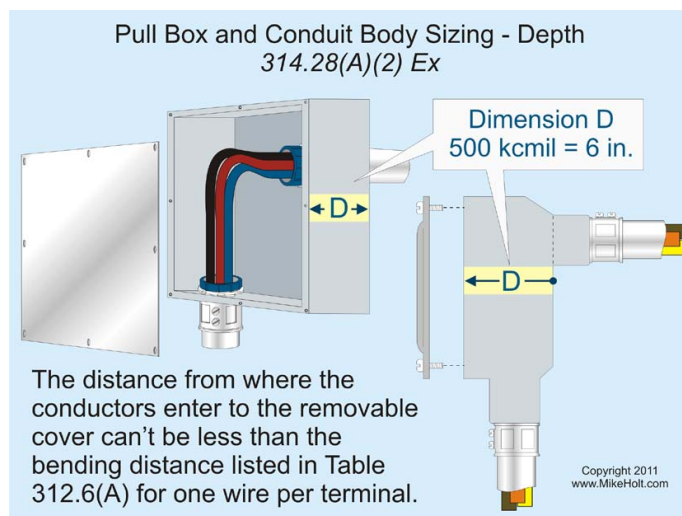

Figure 5-51
*Exception: When conductors enter an enclosure with a removable cover, such as a conduit body or wireway, the distance from where the conductors enter to the removable cover must not be less than the bending distance as listed in Table 312.6(A) for one conductor per terminal. **Figure 5-51***